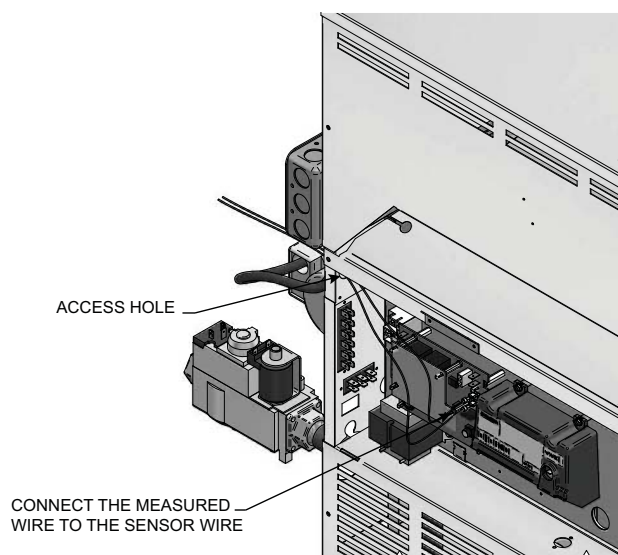

Figure 5-4 _Installation of Remote Sensors
5. Connect the measured wire to the sensor wire using wire caps (see FIG. 5-4). Install .250 x .032 insulated female quick connect terminals to the end of the wires. Feed the wires through the access hole located on the back of the unit and secure the connectors to the thermostat connections (Sys/Tank) CN5 and CN6 located in the upper right-hand of the thermostat.